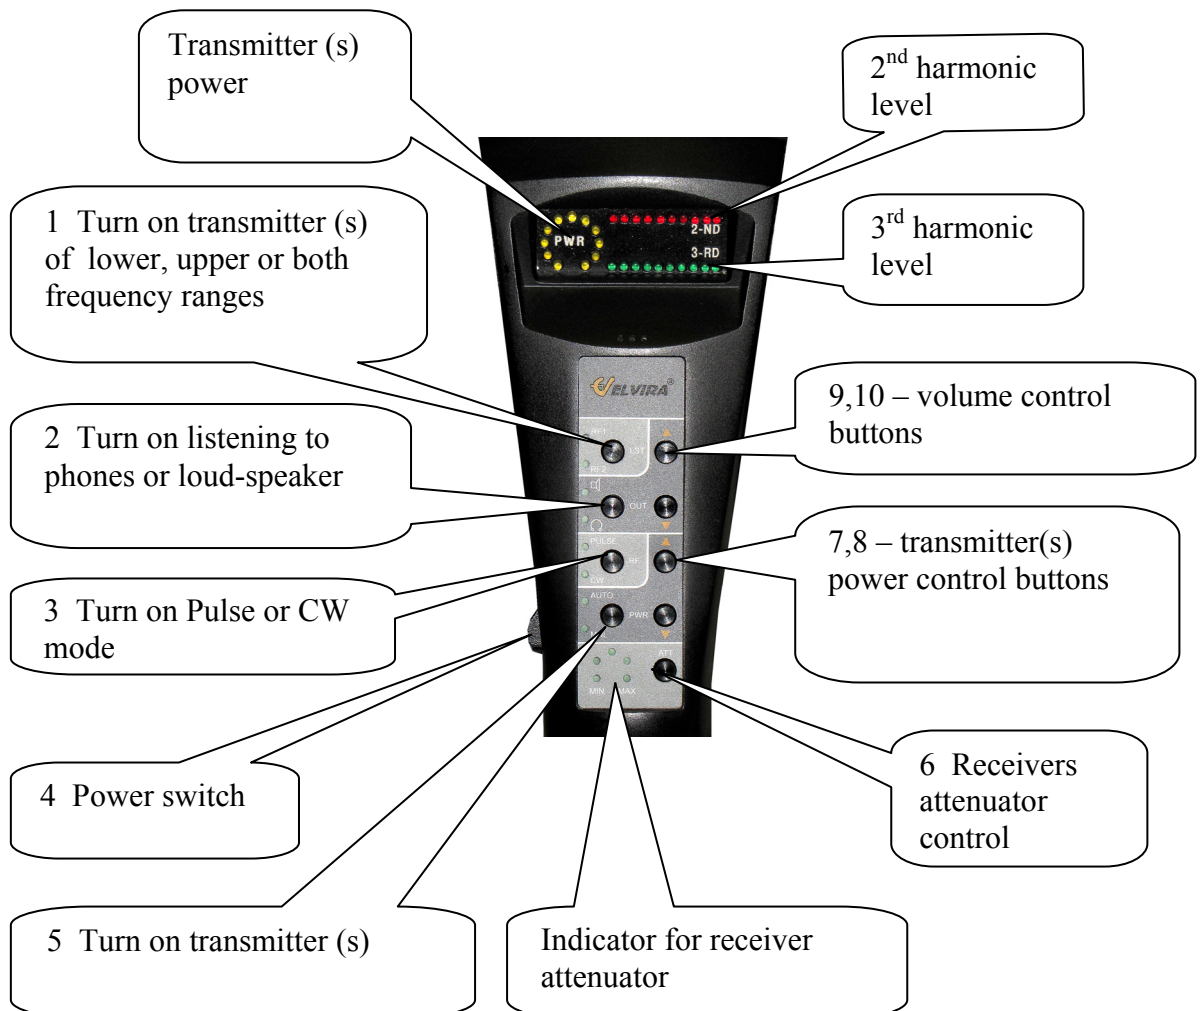

Fig.3
4.2. The control panel is used to control operation of the detector. It is placed on the arm into which a battery is embedded. Control board, buttons for operation modes control and display LEDs are placed in the case. Control panel and its buttons functions are given in Fig.3.
6.2. Turn the detector on by the type-slide switch 4 (Fig.3) placed on the arm. Two indicators RF1 and a loudspeaker LED will light up. One yellow LED should light on the circle scale of the probing signal power indicator. Its initial position corresponds to the maximum power of the probing signal. The probing signal transmitter is off (it is turned on after pressing PWR button 5 only). The 2nd and 3rd harmonics indicators should not light.
6.4. Before pressing PWR button 5 one can turn the upper range transmitter on by button 1 (Fig.3). Also, one can press this button while the lower range transmitter is on, here RF2 LED lights up. If button 1 is pressed again, both transmitter are turned on, so both RF1 and RF2 LEDs light up. Further pressing this button will turn the lower range transmitter on again and so on.
6.7. If a response signal is to be listened via phones press the corresponding button 2 (Fig.3) and turn a receiving device on (cl.4.4).